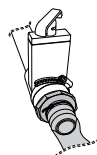

Figure 13.2g
4. Screw in the adapter with hose that was included in the equipment bay. Attach it to the quick drain, Figure 13.2g. Make sure to direct the hose to an area where the water will drain properly.